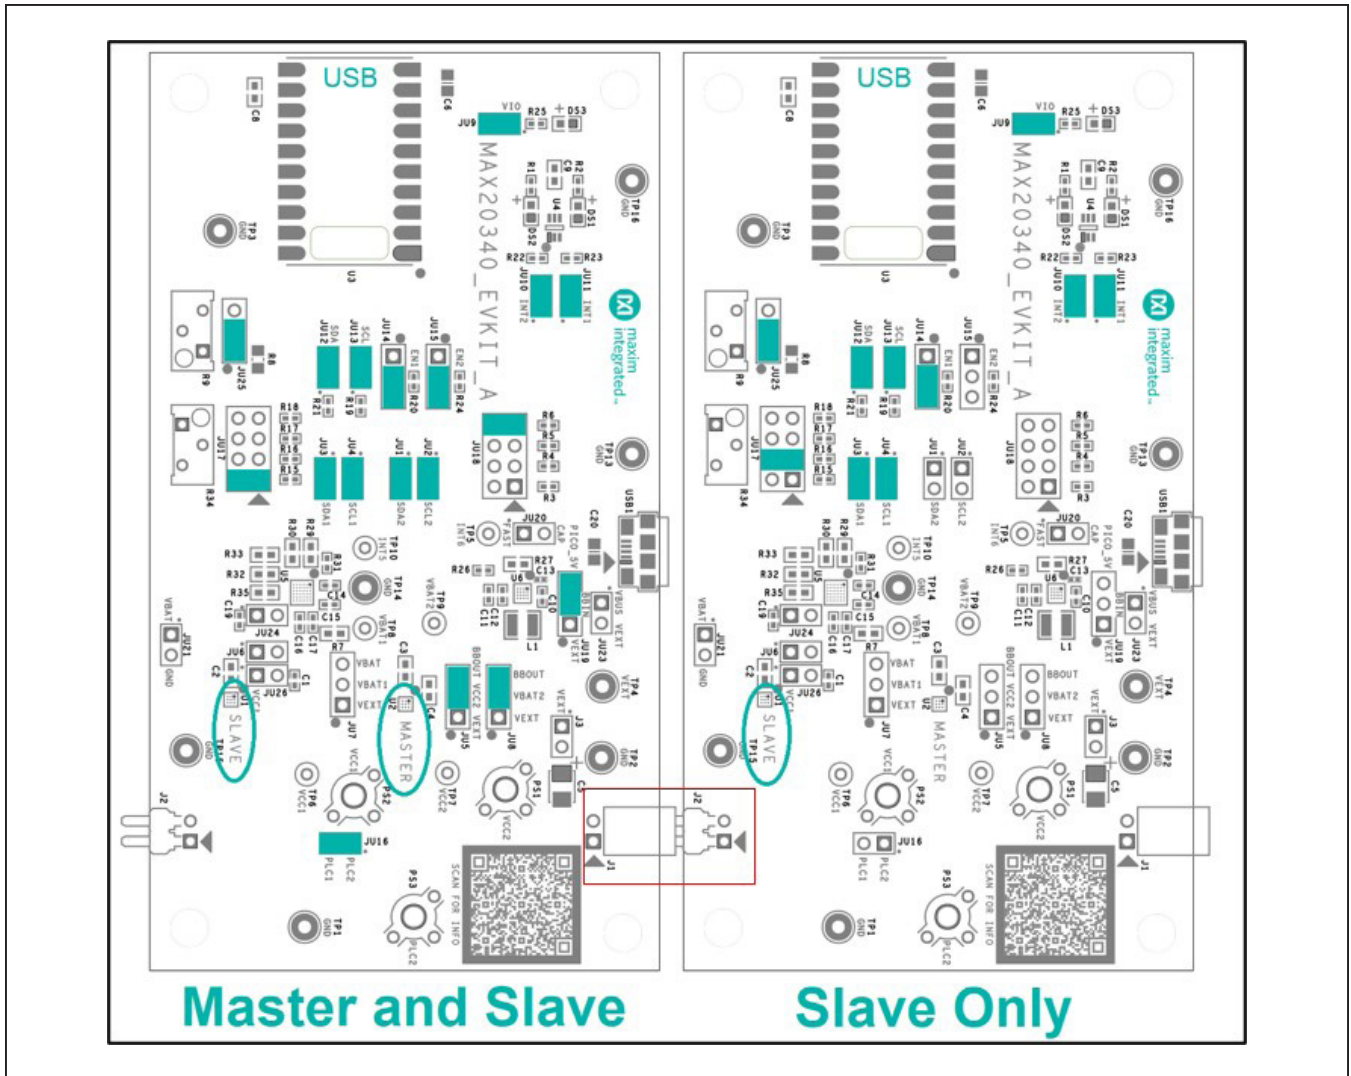

Figure 7. Jumper Configuration for Dual Slave Mode.
- 1) Install jumper shunts on both boards as shown in teal in Figure 7.
- 2) Connect the PLC and GND pins of the two boards by inserting the J2 pins of the “Slave Only” board into the J1 connector of the “Master and Slave” board as shown in Figure 7.